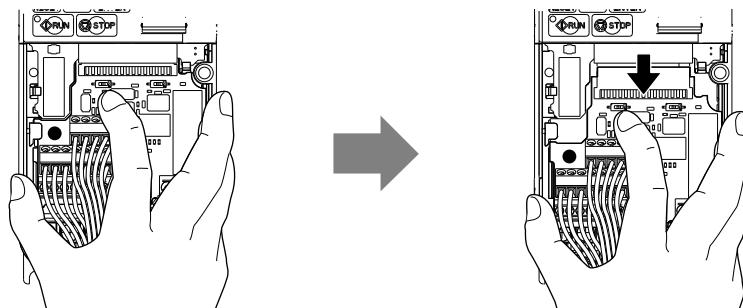

Figure 7.7 Removing the Terminal Board
- While holding down the locking pin from step 3, slide the removable terminal block in the direction of the arrows in Figure 7.7.